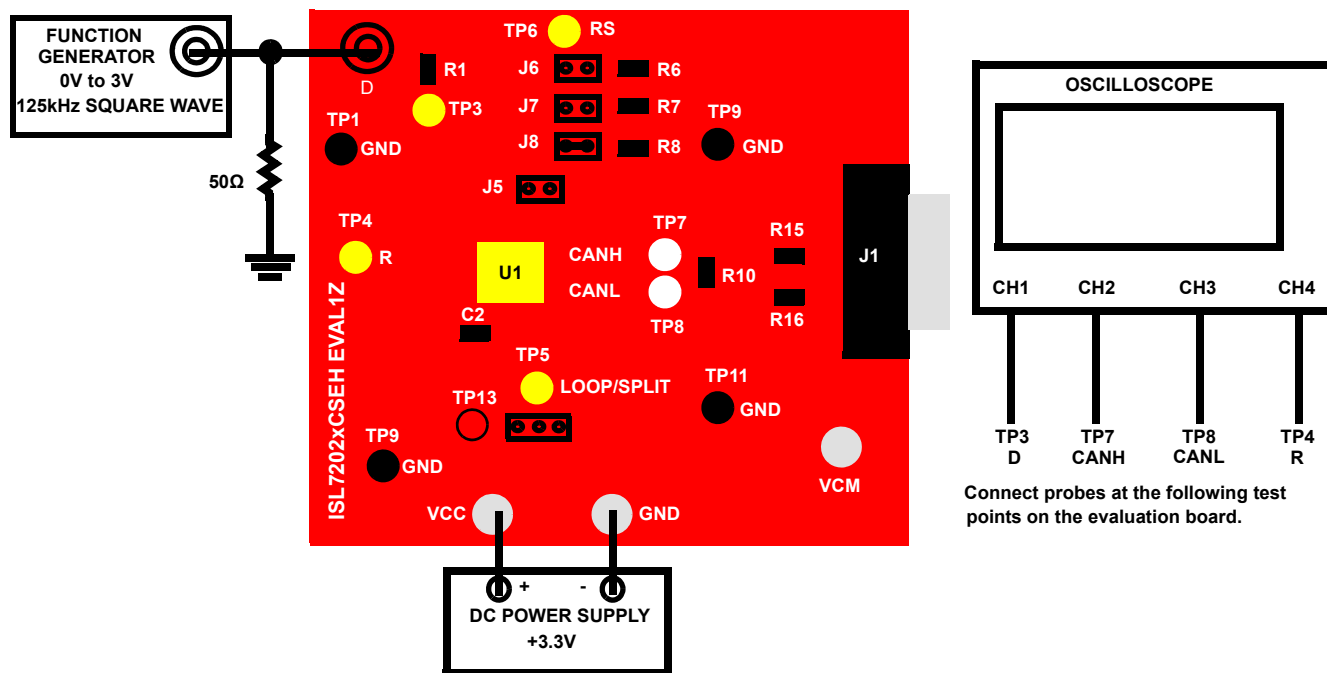

Figure 2. Basic Evaluation Test Setup Block Diagram (Measuring Propagation Delay, Skew, and Rise/Fall Time)
Refer to Figure 2 on page 7.
- (1) Attach the main evaluation board to the DC power supply to the banana jacks labeled VCC and GND as shown in Figure 2. Positive terminal at VCC and negative terminal at GND. The supply should be capable of delivering 3.0V to 3.6V and 100mA of current. Set the supply voltage to 3.3V.
- (2) Configure the board for High Speed mode by installing a jumper at J8. No jumpers should be installed at J5, J6, J7, and J9.
- (3) Connect the oscilloscope to the evaluation board as indicated in Figure 2.
- (4) Connect the function/signal generator at the BNC connector labeled D on the evaluation board as shown in Figure 2. Set the generator to output a 125kHz square wave, 0V to 3.3V amplitude, and 50% duty cycle with a $t_{\text{rise}} = t_{\text{fall}} \leq 6\text{ns}$. Disable the generator output.
- (5) Verify that a 60Ω resistor is installed at location R₁₀ on the evaluation board.